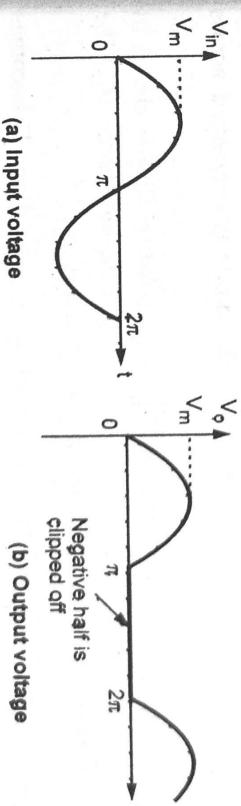

Fig. Q.42.2 Waveforms of series negative clipper
- The input waveform and the corresponding output voltage waveform is shown in the Fig. Q.42.2.